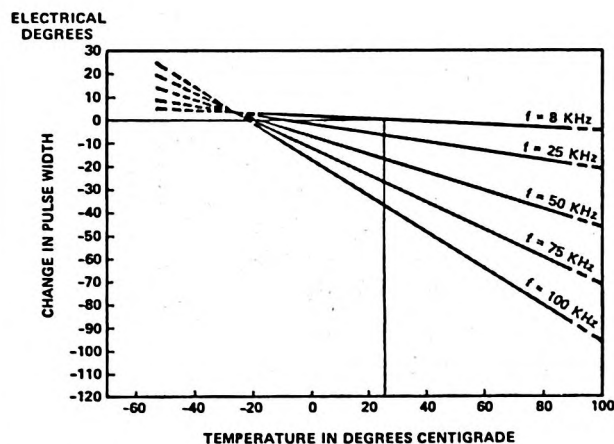

Figure 3. Typical Change in Index Pulse Width due to Speed and Temperature
- In a properly assembled lot, 99% of the units when run at 25°C and 8 KHz should exhibit an index pulse width greater than 260 electrical degrees and less than 460 electrical degrees. To calculate index pulse widths at other speeds and temperatures add the values specified in Figures 3 or 4 to the typical 360° pulse width or to the maximum 99% values specified in this note.